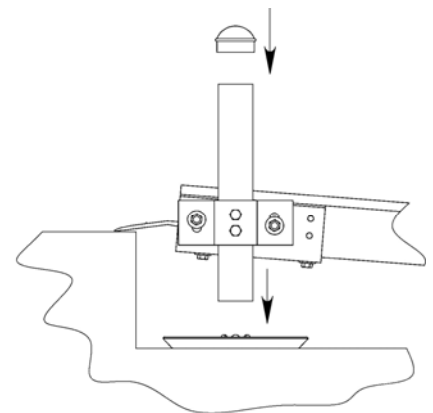

FIG 41
- iv) Level support tube and then tighten 3/8" nylock nuts to secure support tube bracket (FIG 41).